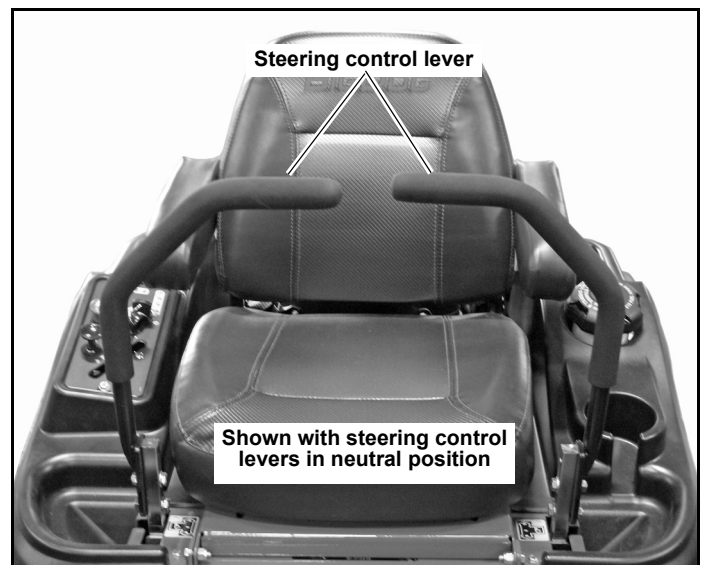
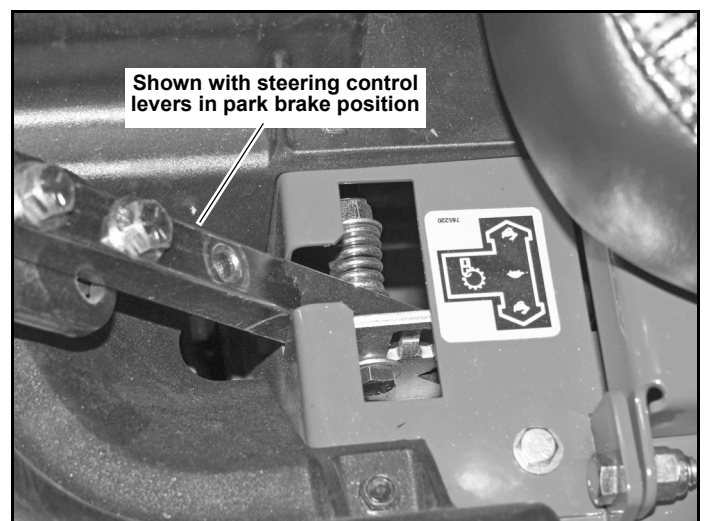

Figure 3-2
Figure 3-3
- A. **Steering control levers (Figure 3-2 & Figure 3-3)** — these levers control the mower's speed, direction, stopping, and park brake. These levers are used to steer, accelerate, decelerate and change direction. When the